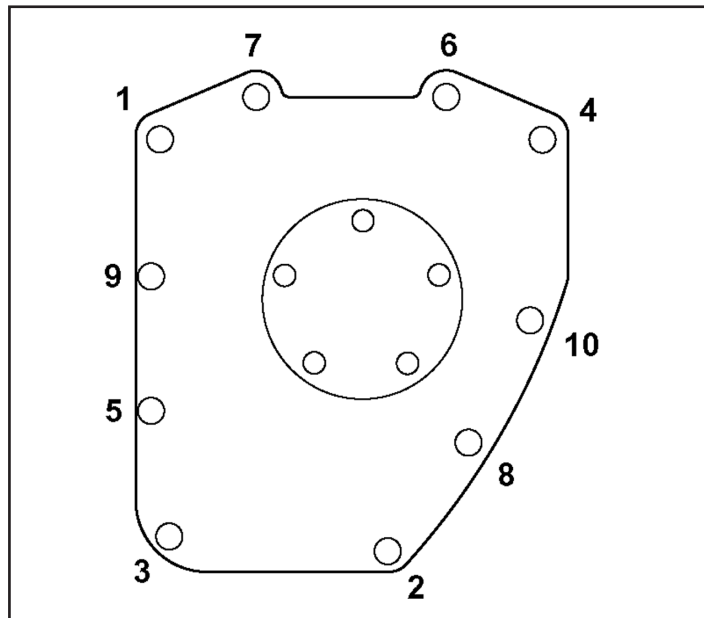

Figure 4
22. Use a new cam cover gasket and install the cam cover. Tighten the cover bolts 90-120 in-lbs torque in sequence shown. See Figure 4.